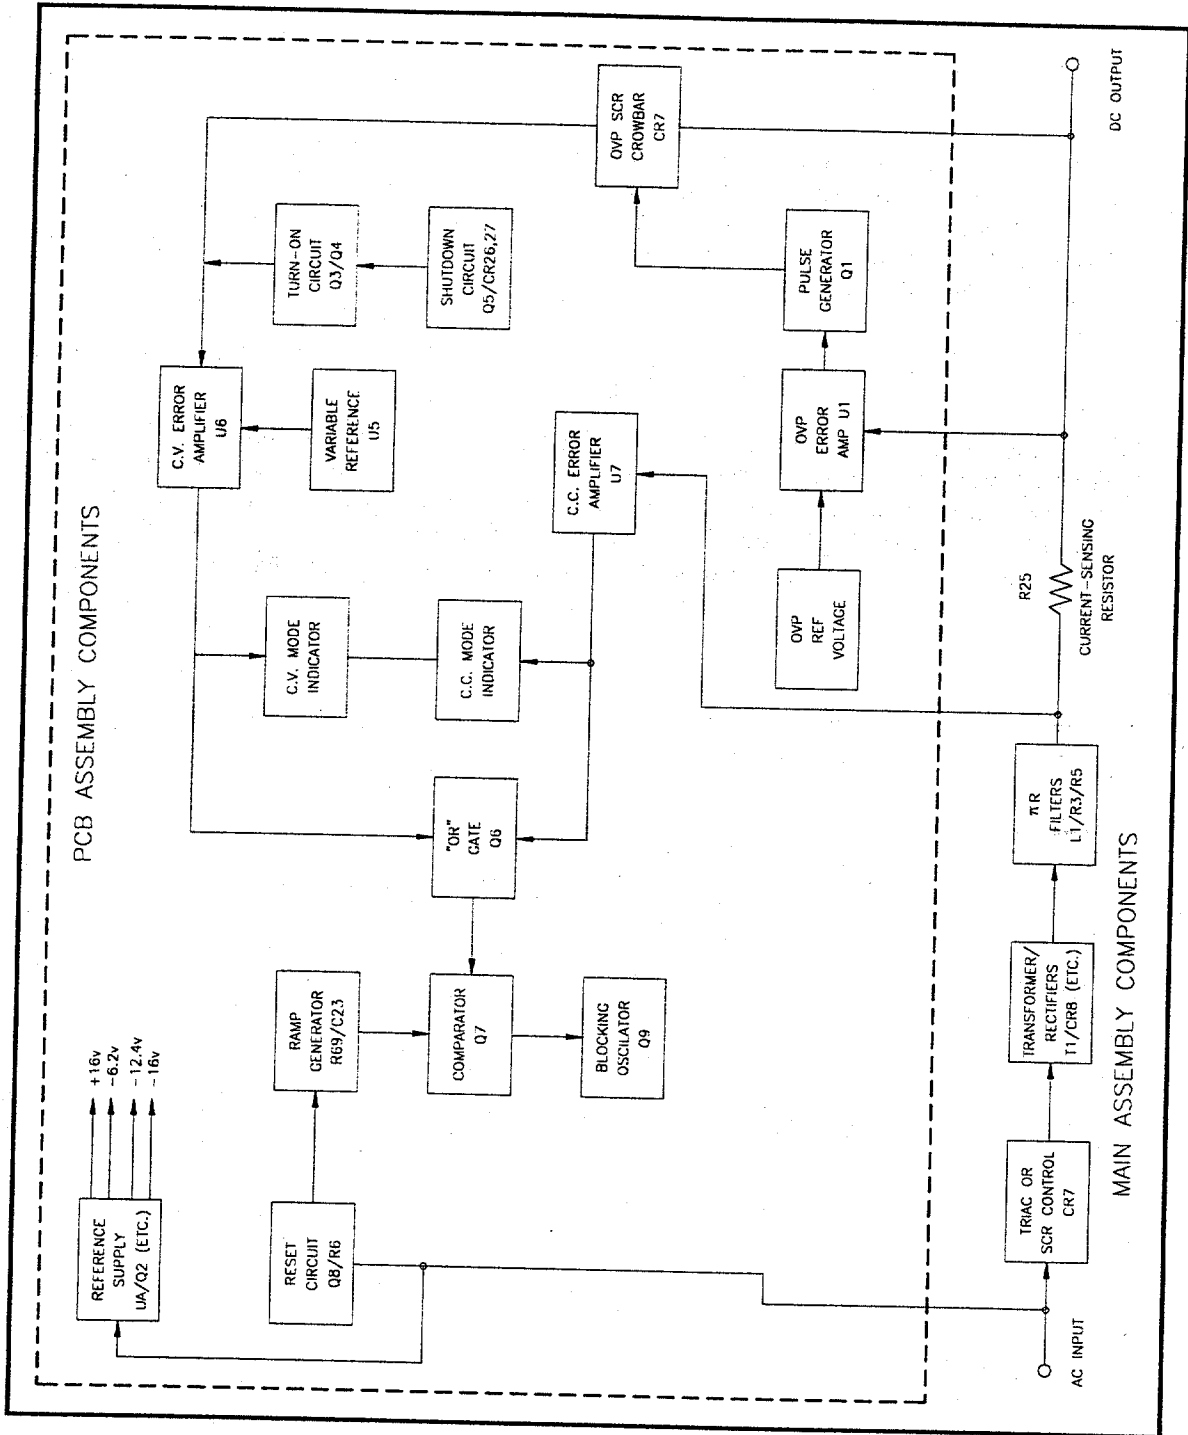

Figure 1-2 DCR-B2 Functional Block Diagram
1.3 **BLOCK DIAGRAM ANALYSIS (FIGURE 1-2)**